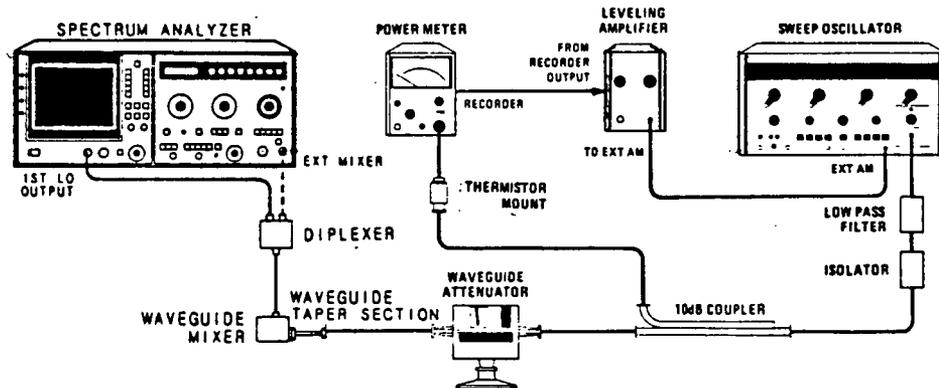

Figure 4-31 Gain Compression Test Setup
1. Connect equipment as shown in Figure 4-31. Set normal (green) settings, except as indicated, and other spectrum analyzer controls as follows: